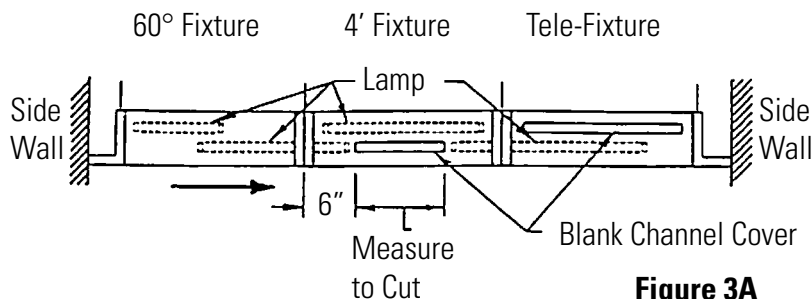

Figure 3A
- B. Cut the blank channel to the measured length. (Fig. 3A)
(Note: To stagger the lamps, the blank channel on both the tele-fixture and the fixture before the tele-fixture may have to be measured to cut as shown in Fig. 3A and Fig. 3B on page 4)